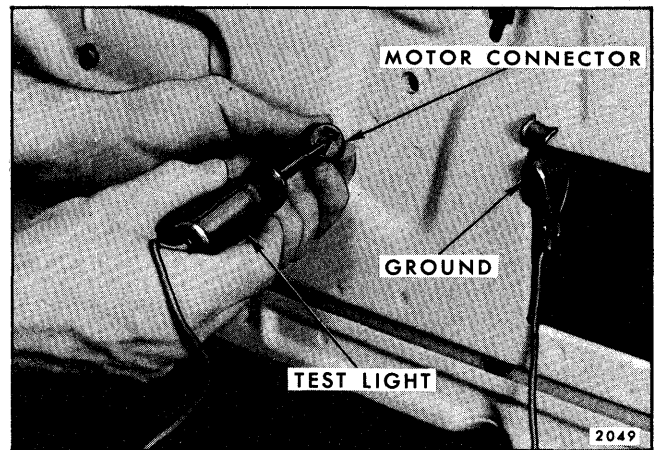

Fig. 10-11-Checking Circuit Between Switch and Motor
- With test light, check for current at both motor harness connector terminals one at a time. If tester does not light, at one or both terminals, there is an open or short circuit in the harness between the control switch and motor connector (Fig. 10-11). If the tester lights, the motor may be defective. Check motor as outlined below.